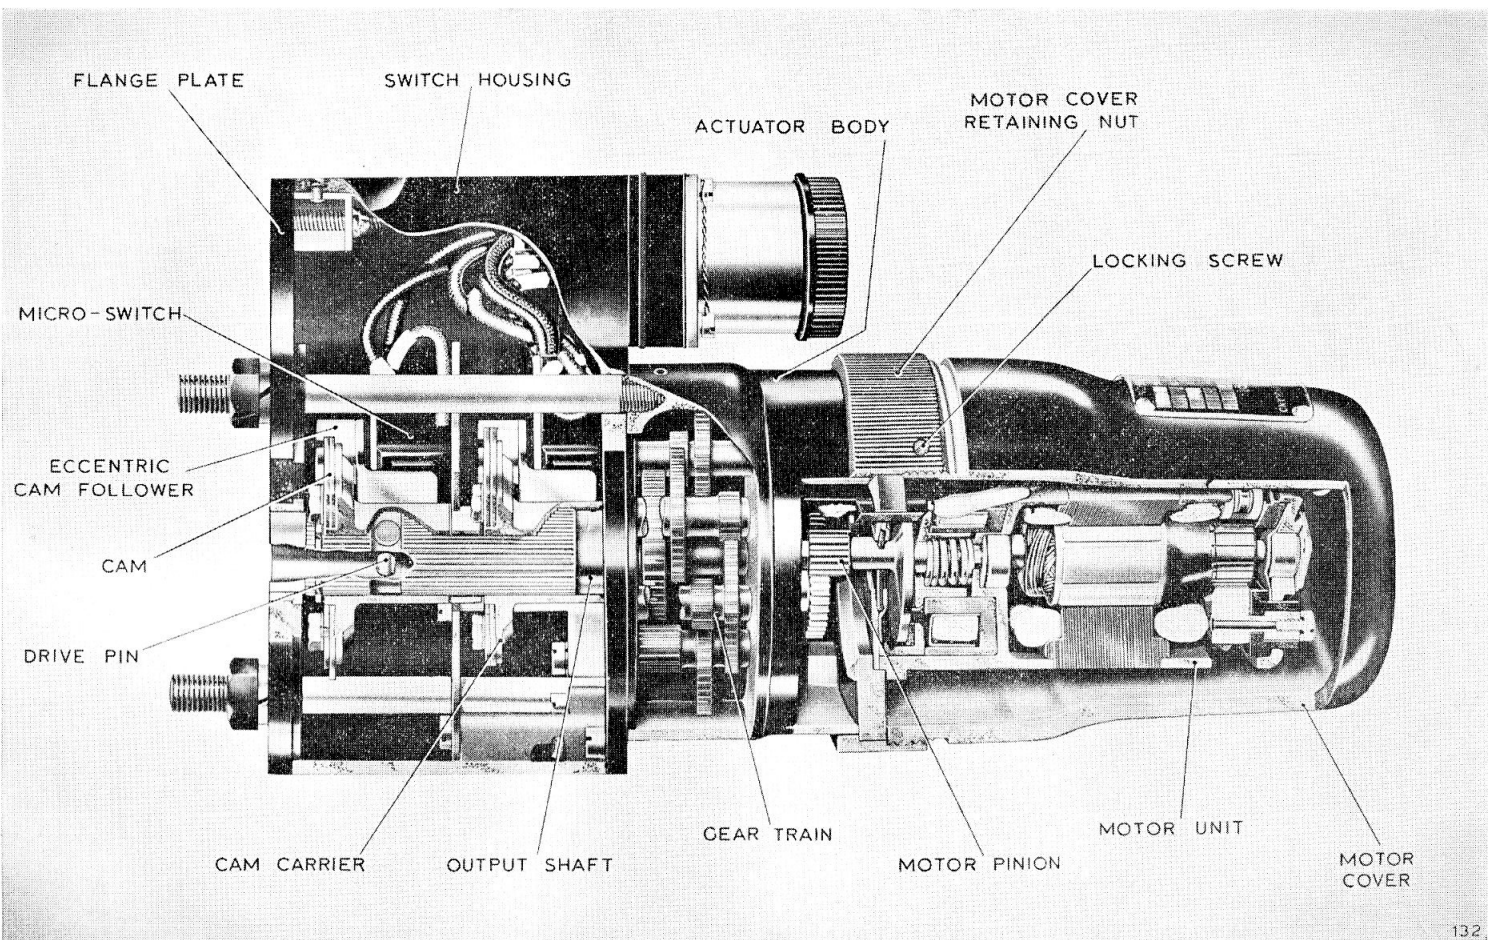

Fig. 1. Cut-away view of actuator
3. The actuator's (fig. 1) main external features are a switch housing, actuator body and motor cover. The switch housing and actuator body are secured by two shouldered studs, the protruding ends of which are used for mounting the unit. The studs pass through the flange plate blanking the end of the switch housing, through the housing to screw into the actuator body, where they